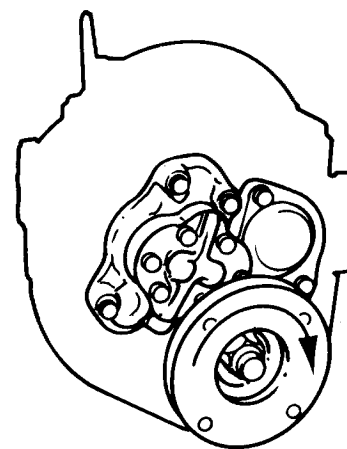

Fig. 3. Oil pump mounting — anti-clockwise engines
- Fig. 3. Oil pump mounting – anticlockwise engines